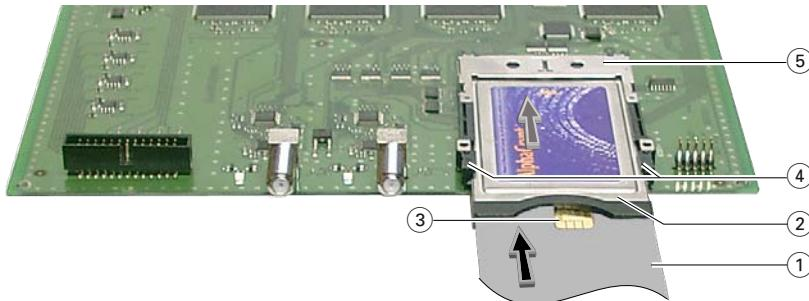

Fig. 1
- Insert the smart card ① into the CA module ② so that the chip ③ on the smart card faces the thicker side (top) of the CA module (fig. 1).
- Push the CA module ② without canting into the guide rails ④ of the common interface slot ⑤ according to the following picture and contact it to the common interface.